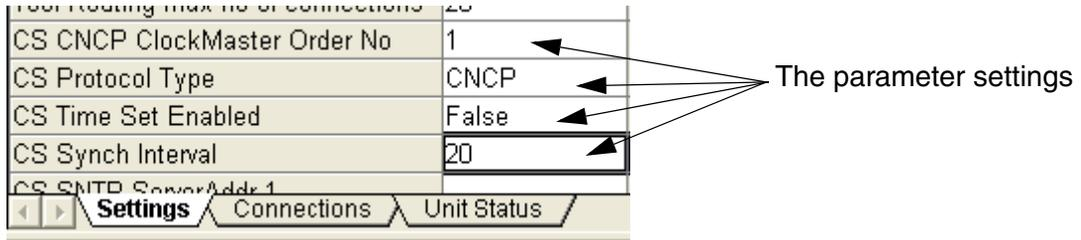

Figure 88. The parameter settings under the Settings tab in the hardware editor.
3. Set the following (four) parameters according to Figure 88. The setting *CS Time Set Enabled* can be set to `True` if local time source is used.